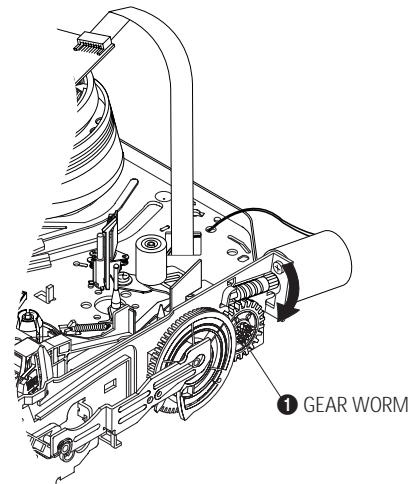

Fig.4-43
- 2) When Slider S,T are approached in the position of unloading, rotate holder Clutch counterclockwise after inserting screw driver in the hole of frame's bottom in order to wind the unwinded tape. (Refer to Fig.4-43)